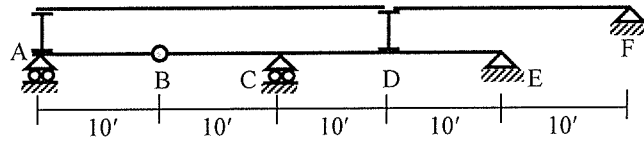

Fig.4
3. Analyze the plate girder shown in Fig.4, to obtain the maximum values of floor beam reaction at A (FBR_A), R_C, V_{D(R)} and M_D if a unit load passes over the stringers. [10]